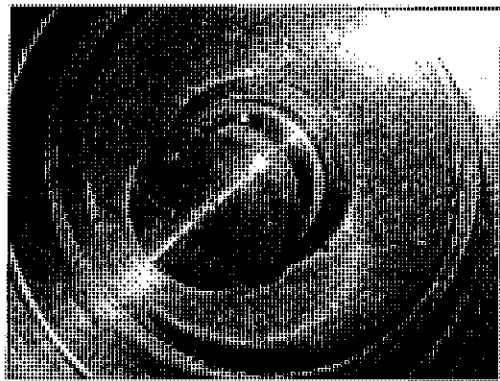
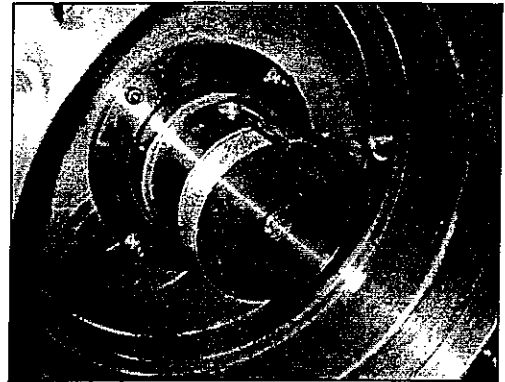

Fig. 3-35
Fig. 3-36
(21) Install Bush (A19), (A20) (Fig. 3-35) and Bush Retainer (A21), (A22) (Fig. 3-36) to Side Casing (B04).